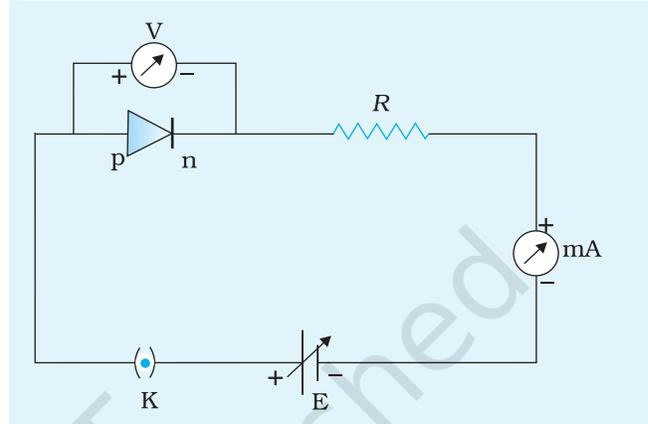

Fig. E 16.1 Forward biasing for a p-n junction diode
1. Note the range and least count of the given voltmeter (V), milliammeter (mA) and the microammeter (μA).
3. Connect the variable voltage power supply, p-n junction diode, voltmeter, milliammeter, resistor and a plug key in a circuit as shown in Fig. E 16.1.